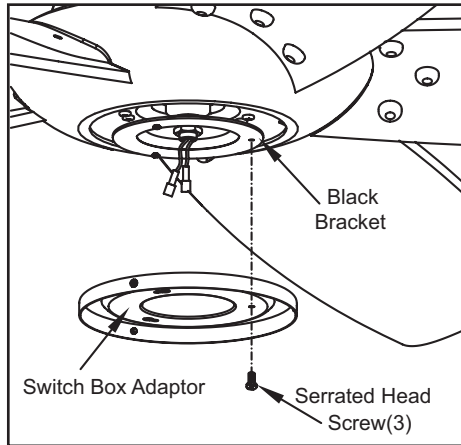

Figure 12
1. Remove one serrated head screw from the black bracket below the fan motor assembly. Loosen, but do not remove the other two serrated head screws (Figure 12).